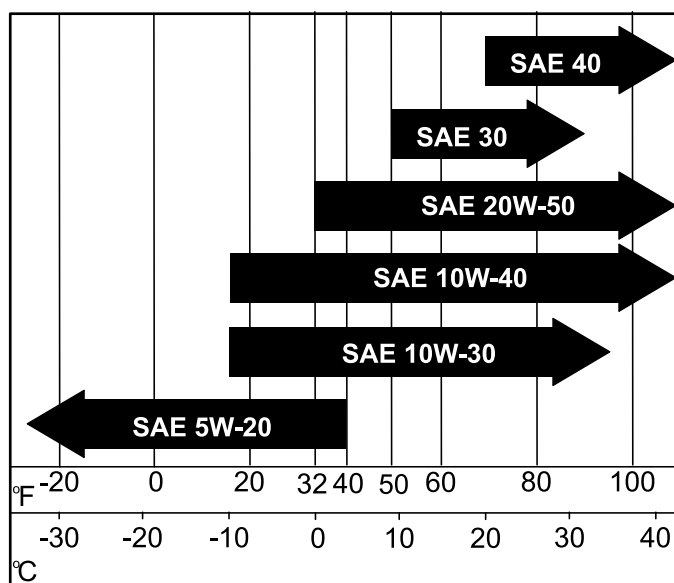

Figure 35
3. Fill the crankcase with the proper type of new oil (Figure 35).